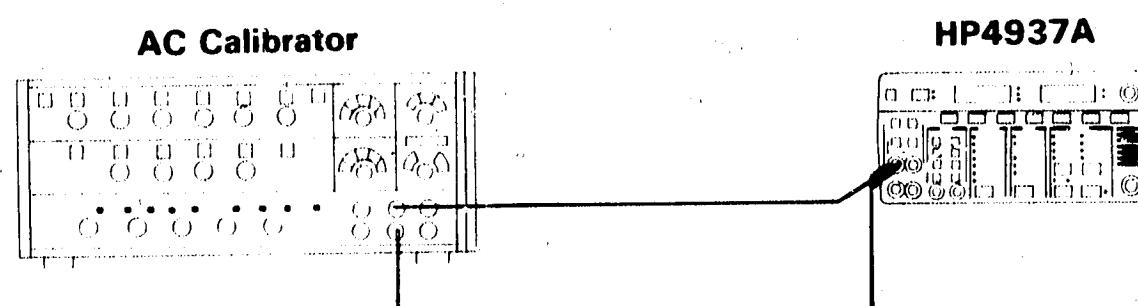

Figure 4-5A. Detector Linearity Test
1. Connect equipment as shown in figure 4-5A.